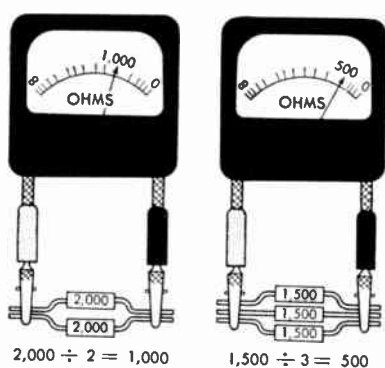

Fig. 16. When equal-value resistors are in parallel, divide the value of one of them by the number of resistors in parallel to get the combined resistance
**Combining Resistors in Parallel.** Resistors can also be combined in parallel to obtain a value that is not in your stock. The easiest way is to combine resistors that have the same value, as in Fig. 16. Just divide the resistor value by the number of resistors you put in parallel. Thus, if you need a 1,000-ohm resistor, connect two 2,000-ohm resistors in parallel. Similarly, three 1,500-ohm resistors in parallel give 500 ohms.